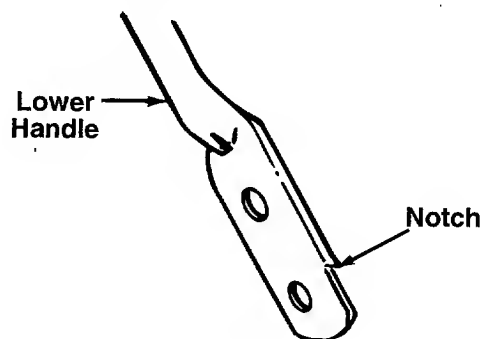

FIGURE 11.
4. Turn the lower handle around so the notches on the bottom of lower handle are facing forward as shown in figure 11. Reassemble, placing the bottom holes in the handle over the weld pins in the handle mounting bracket.